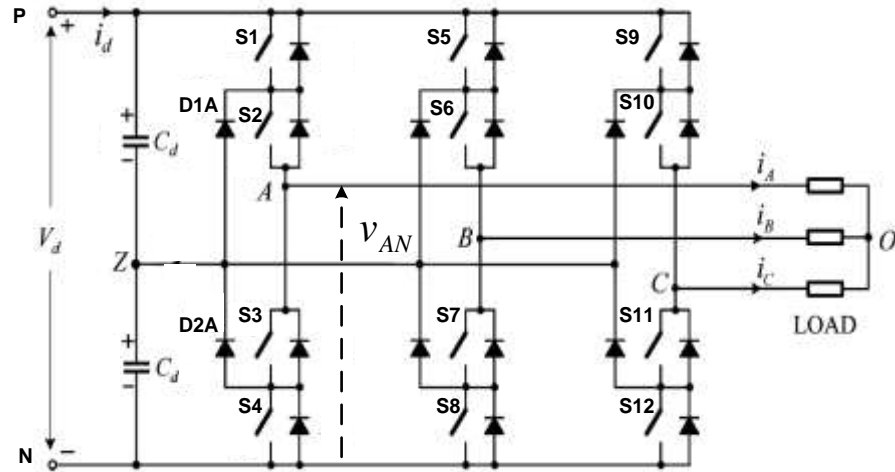

Figure 2.1 Neutral point clamped voltage source inverter
2. a. For leg A of the converter shown in figure 2.1 sketch a representative waveform of the output voltage v_{AN} , select suitable gate drive signals with reference to the output voltage v_{AN} and identify available switching states.
- b. The inverter shown in figure 2.1 is modulated by Space Vector Modulation. Select one suitable switching state that enables power flow between the source and load and will make voltage v_{ZN} rise. For the selected switching state calculate the amplitude and position of the corresponding static space vector based on the general space vector form given by: